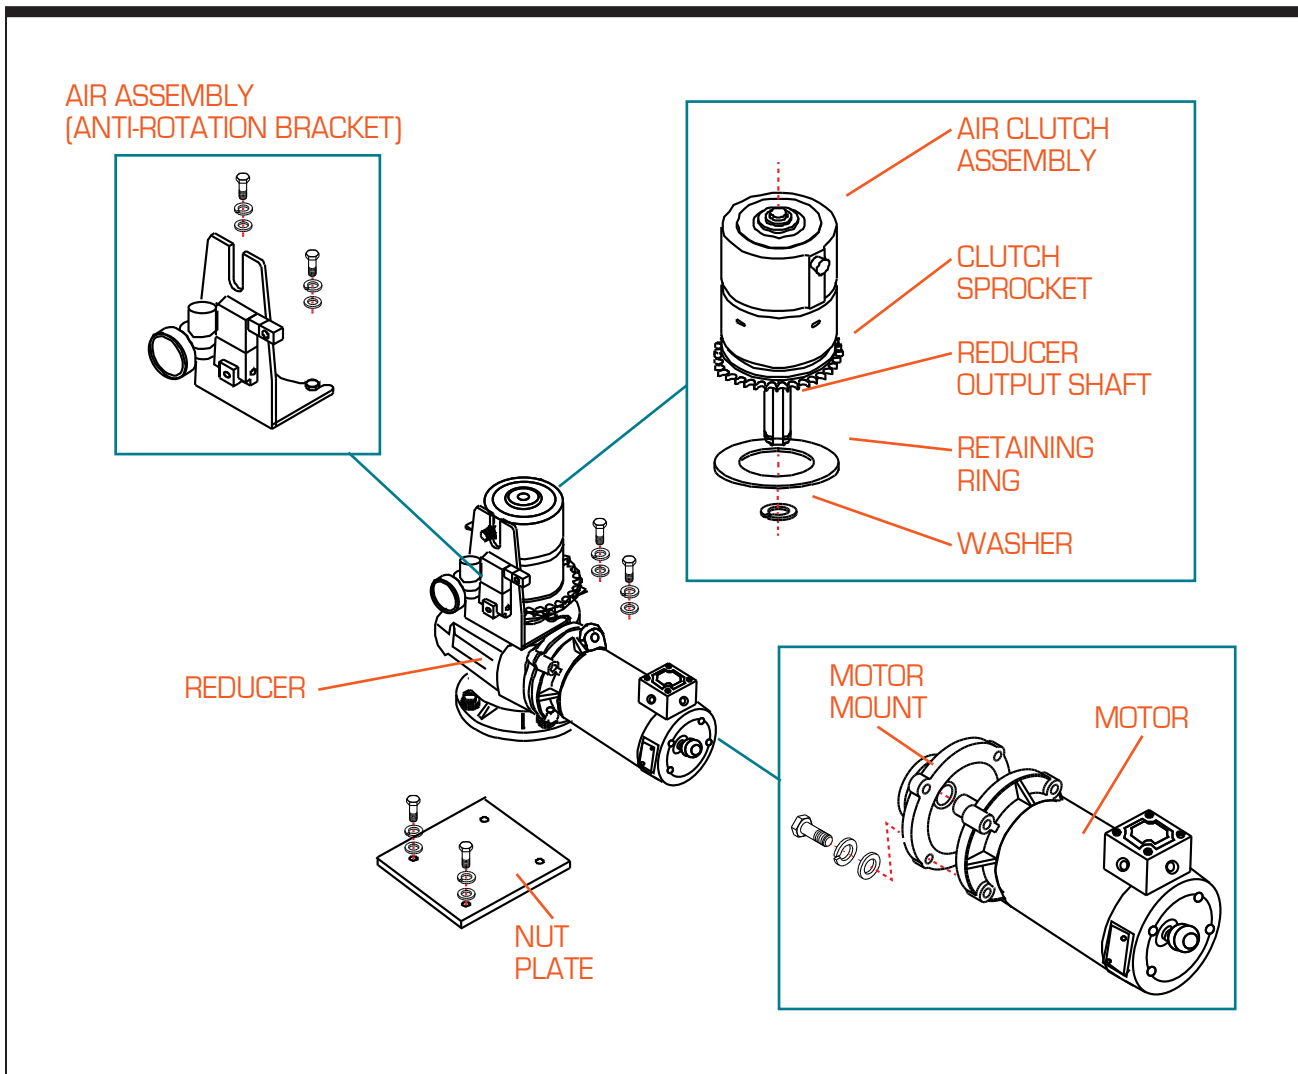

Figure 5-2. FS-40/50 Feeder Air Clutch and Motor Assembly
Step 1—Gain Access. Disconnect power and air. Remove the frame/safety guard giving best access to the motor and gear reducer. Loosen mounting bolts and slide air assembly bracket off (see Figure 5-2). Lock out and tag out the system.
Step 6—Assemble Output Shaft/Air Clutch. The output shaft on the metric speed reducer is removable and is available as a separate kit. If replacement is required, clean both contact surfaces before assembly and apply any appropriate anti-seize compound to avoid oxidation (rust) and possible seizing of parts, refer to manufacturer's technical information sheets that correspond with the output shaft. Slide the air clutch assembly down onto the reducer output shaft (see Figure 5-2) until it bottoms out against the shoulder. Tighten setscrew. The speed reducer used in the metric FS-40-RD or FS-50-RD feeder is lubricated for life with synthetic lubricant and requires no filling before use.
Step 3—Begin Air Clutch Replacement. Observe the order of components before replacing the unit (see Figure 5-2 on the previous page). Disconnect air supply, anti-rotation bracket, shaft retaining bolt and setscrew.